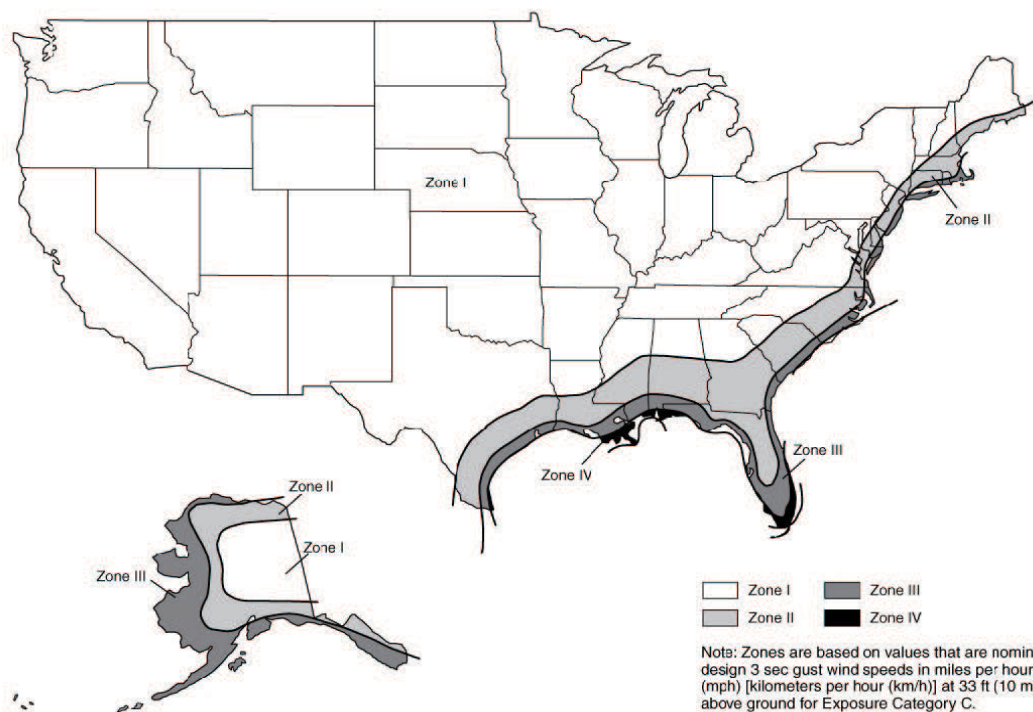

Figure 1 Wind zone map of U.S. and the State of Florida used for manufactured home construction.
Prior to selecting a manufactured home, it is important to identify the zone where the home will be located (Figure 1). In the U.S., three major zones should be considered for manufactured home construction: **wind zone**, **roof load zone**, and **thermal zone**. The requirements and permissions are different for each zone. The General Contractor (GC) should know the regulations and ensure that the manufactured home meets the requirements for their zone.